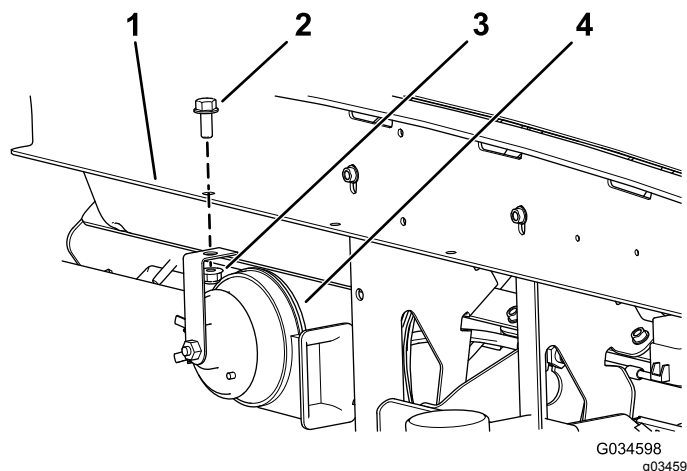

Figure 1
2. Install the 12 V horn assembly to the existing hole in the dash bracket with the hex-head screw (5/16 x 3/4 inch) and flange nut (5/16 inch) as shown in Figure 1.